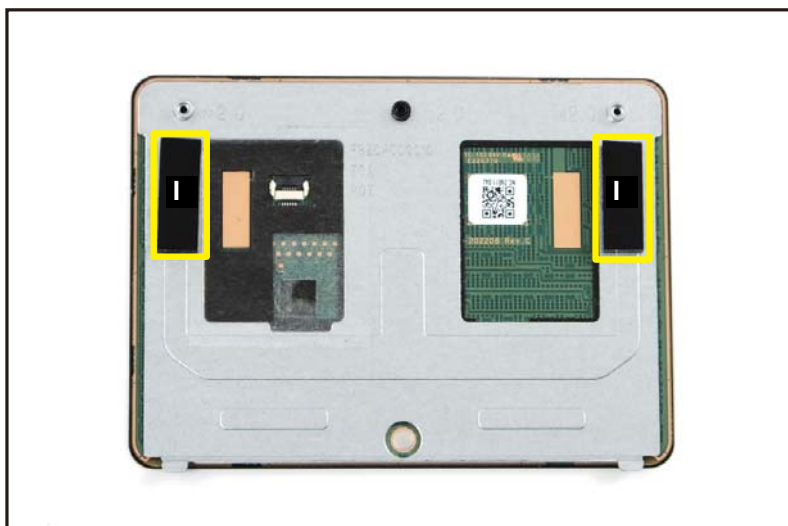

Figure 1-15. Touchpad Module Removal
8. Detach the rubbers (l) from the touchpad module (Figure 1-15).